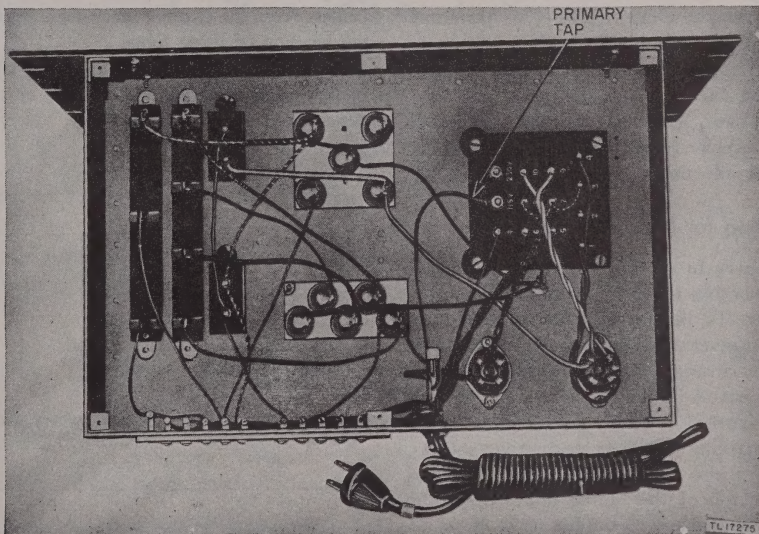

Figure 12. Bottom view of power supply unit, showing primary tap connection.
e. **A-C INPUT.** Before plugging the power cord into the a-c power line, remove the bottom plate from the power supply unit to see that the primary tap is properly connected for the particular a-c voltage available. This primary tap connects the fuse holder to one of the screw terminals on the power transformer, and is marked PRIMARY TAP in figure 12. Connect the primary tap to the screw terminal most closely agreeing with the available a-c line voltage and replace the bottom cover plate.
(1) Power Supply Unit RA-74-(*) has eight